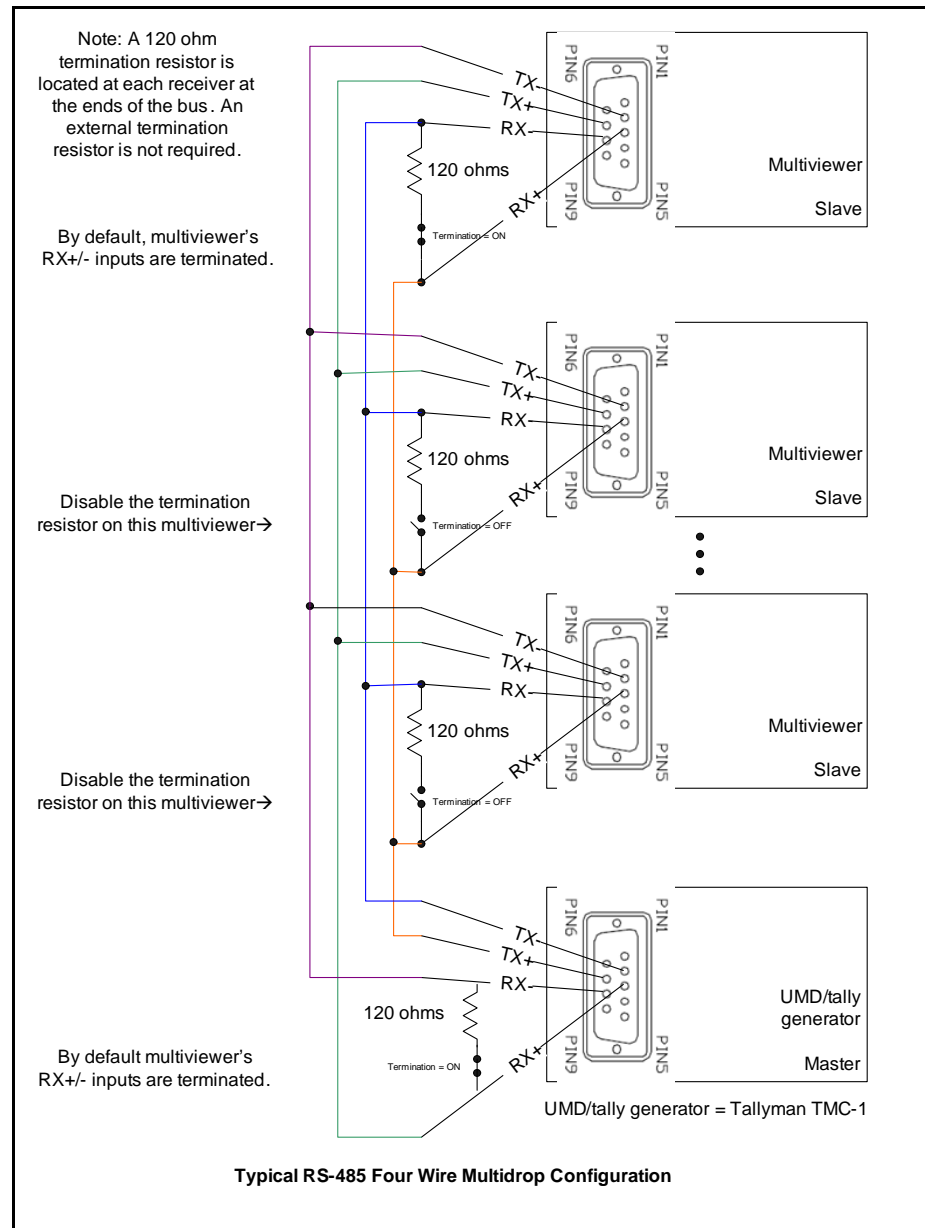
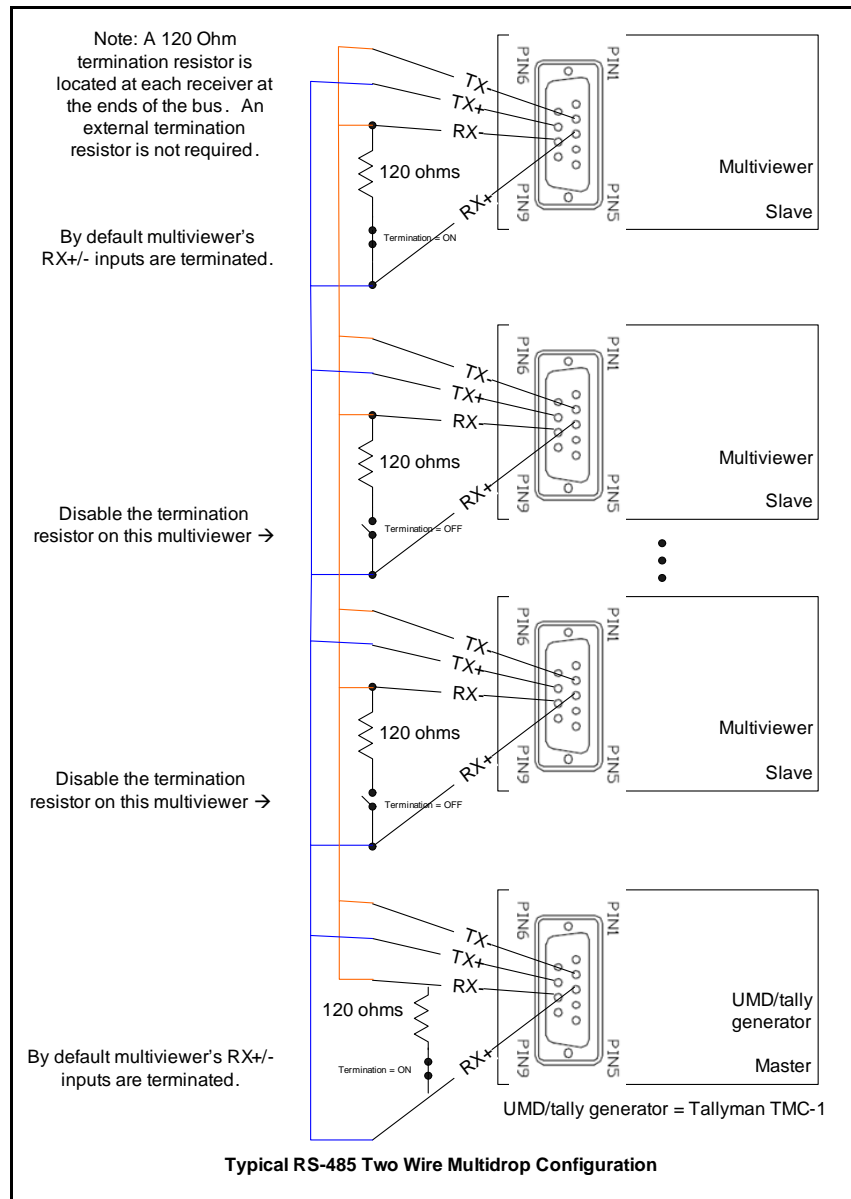

Figure C-1. Typical RS-485 Four Wire Multidrop Configuration
Figure C-2. Typical RS-485 Two Wire Multidrop Configuration
- RS-485 cable connection between a multiviewer (COM 1–4) and a UMD/tally device (see Figure C-1 on page 88 and Figure C-2 on page 89)
Figure C-1 illustrates a simplified system configuration with UMD/tally support.